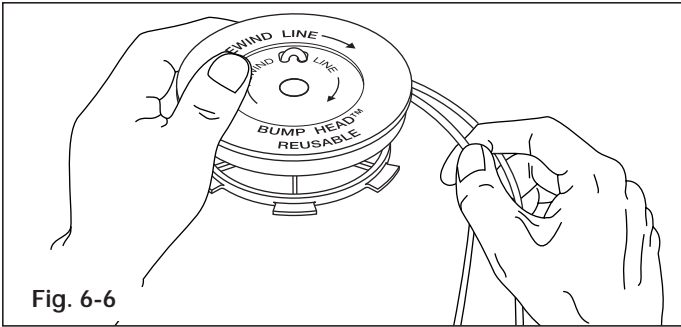

Fig. 6-6
7. Wind the lines in tight even layers onto the reel. See (Fig. 6-6). Wind the line in the direction indicated on the inner reel. Place your index finger between the two lines to stop the lines from overlapping. Do not overlap the ends of the line. Proceed to step 11.